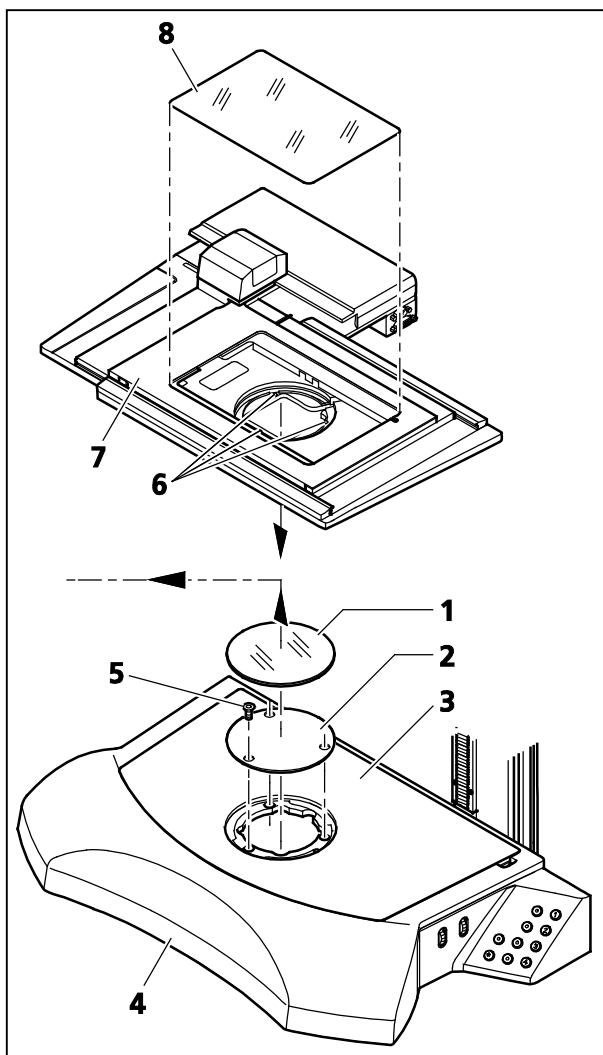

Fig. 8 Mounting the mechanical / measuring stage mot. on transillumination top DL 450 mot.
- Remove the glass plate (Fig. 8/1) from insert plate (Fig. 8/3) by pressing and tilting the rear edge.
- Insert assembly aid $d = 120$ mm (Fig. 8/2) to prevent the screws and small parts from being lost in the transillumination top (Fig. 8/4).
- Remove the three short hexagon socket screws (Fig. 8/5) on the insert plate and keep for possible later use.
- Remove assembly aid $d = 120$ mm (Fig. 8/2) again.
- Set the mechanical / measuring stage (Fig. 8/7) on the insert plate (stage drive pointing to the left), align to the rear edge of the transillumination top (Fig. 8/4) and secure on the transillumination top with the three captive screws (Fig. 8/6) of the stage.
- Insert the glass plate (Fig. 8/8) into the stage.
The red dots on the table (Fig. 8/7) and glass plate (Fig. 8/8) are to ensure reproducibility of the alignment of the metal plate and stage if the former needs to be detached.